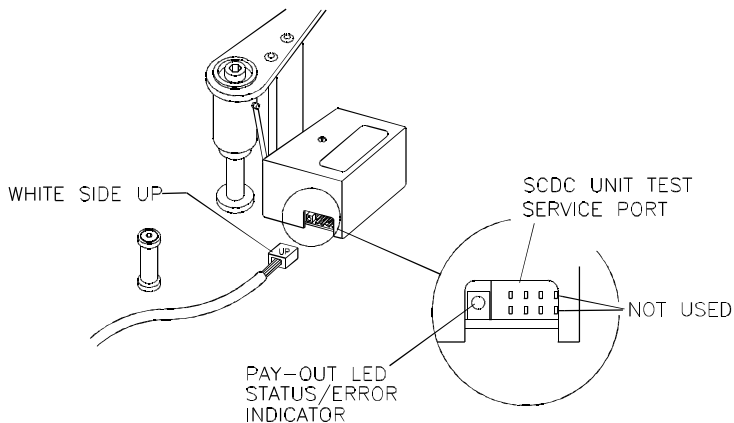

Figure 2
4. Plug the 6 pin connector into the SCDC card next to the Red LED as shown below. The top surface is marked with AUP@ for correct orientation (see figure 2). The port on the Rewind card is in the same location as the Pay-Out Card but does not have the black cover.
Note: Only the 6 pins closest to the LED indicator are used on both the Pay-Out and Rewind Cards. (See figures 2 and 3). The remaining two pins are not used.